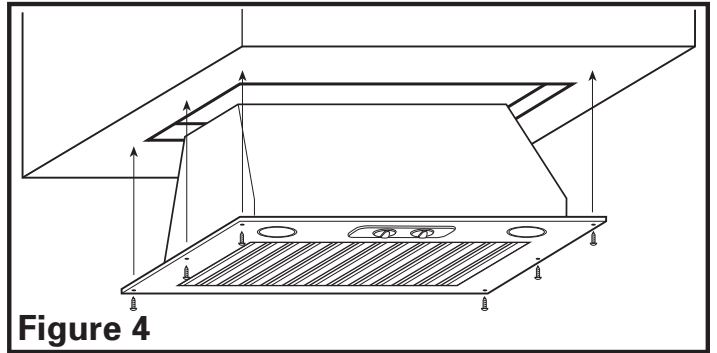

Figure 4
1. Install the insert unit into the hole and secure in place using six screws (not included) (Figure 4).